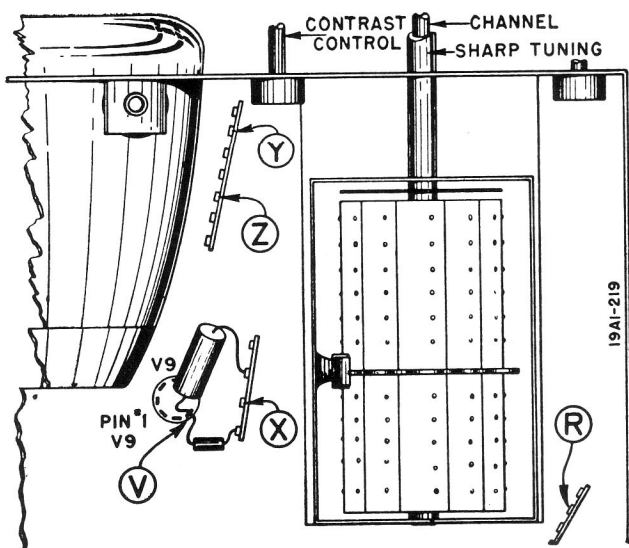

Figure 29. Bottom View Chassis showing Alignment Connection Points.
- Alignment adjustments and connection points are shown in figures 29 and 30.
- Alignment adjustments, connection points, and response curves are shown in figs. 29, 31, 32.
- Alignment adjustments, connection points, and response curve shown in Figs. 29, 32, 33, 34.